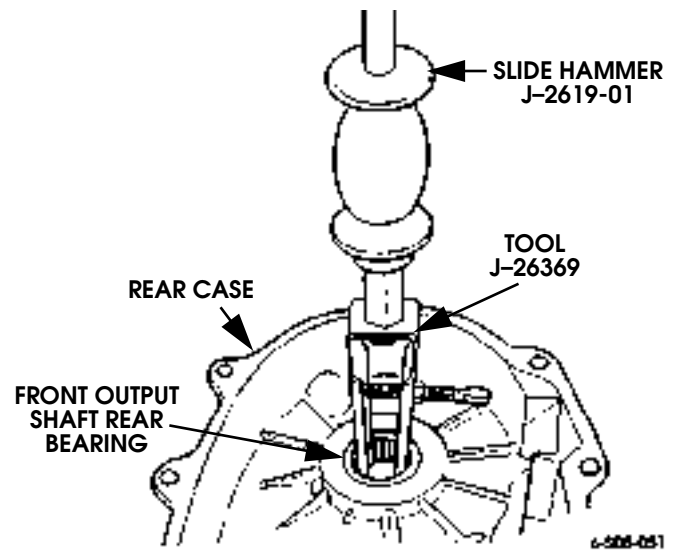

Figure 5-120: Front Output Shaft Rear Bearing Removal
- b. Pull bearing using slide hammer, adapter J-2619-01, and puller J-26369 (Figure 5-120).